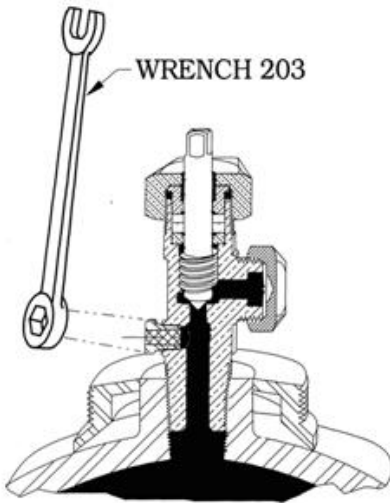

Fig 3.7.1
- A) Tighten fusible plug slowly, using steady pressure with WRENCH 203 (Fig 3.7.1)